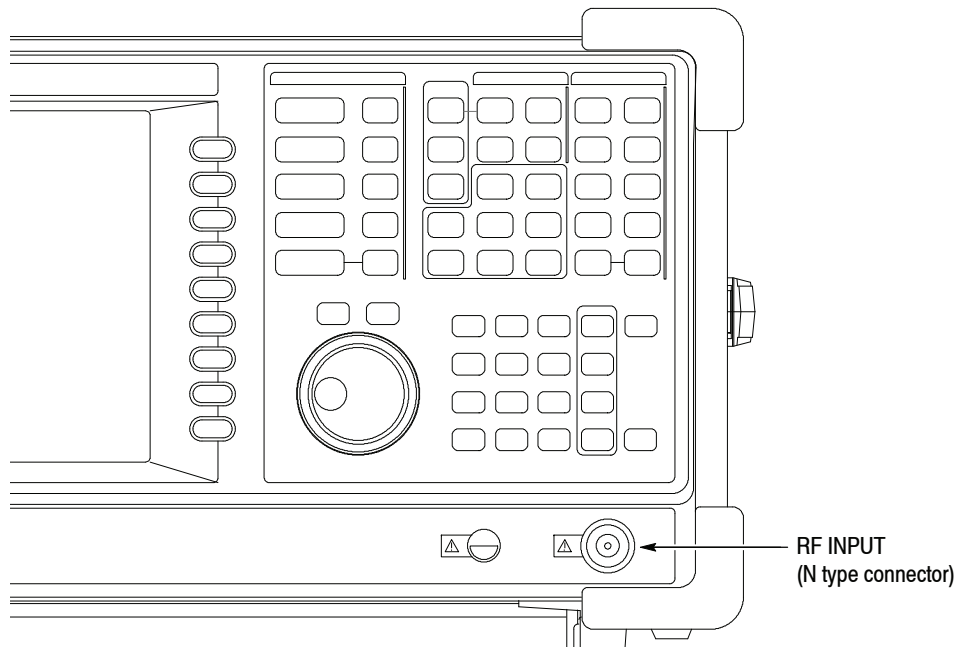

Figure 2-26: Cable connection
1. Connect the output of the signal generator to the RF INPUT connector on the analyzer front panel using a coaxial cable (see Figure 2-26).